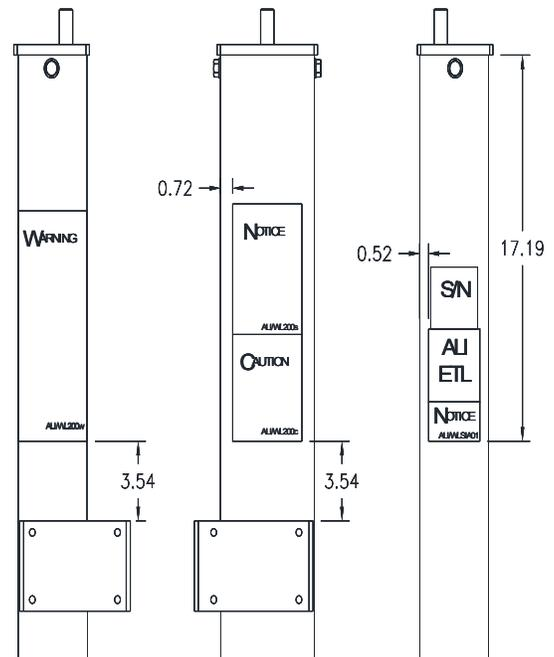

Fig 21 – Power Column Decal location
- 47) Place the Caution, Warning and Safety Instructions decals seen on page 4, on the power column as shown, **Fig 21**.